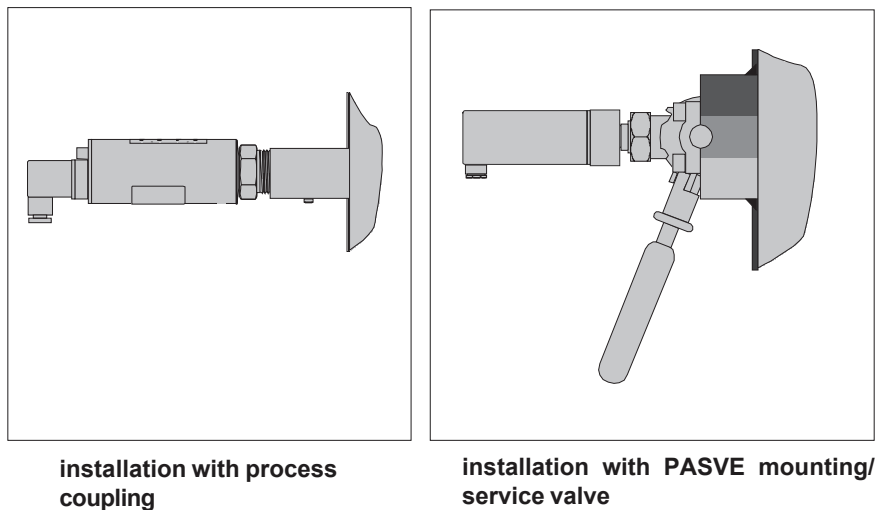

FIGURE 1-1 RECOMMENDED MOUNTING POSITIONS
**Mounting recommendations:** Fig. 1-1